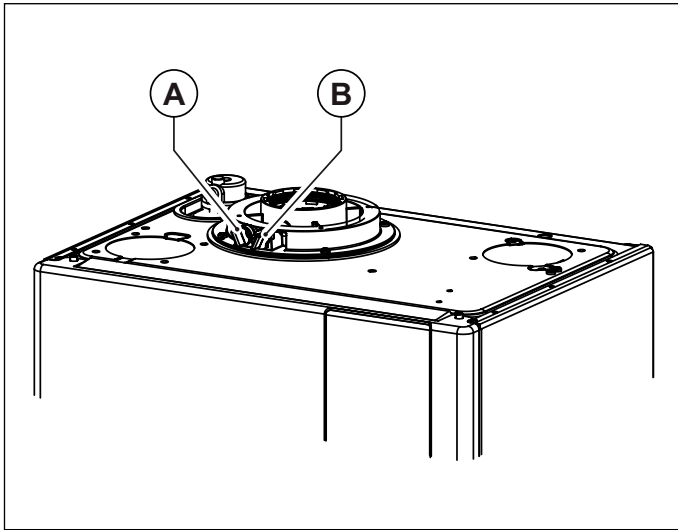
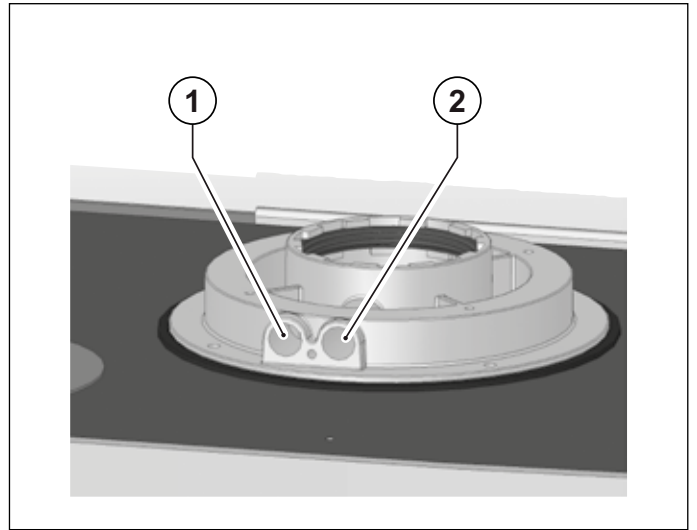

Fig. 15 Caps position
Fig. 16 Hole position
The boiler is equipped with a tower allowing for air intake/flue gas venting pipe connection (see Fig. 15 Caps position and Fig. 16 Hole position).
The tower is designed with two pre-arranged openings directly accessing air and flue gas ducts (see Fig. 15 Caps position).
Remove caps **A** and **B** from the pre-arranged openings on the tower, before taking the measurements (see Fig. 15 Caps position).
- assess combustion air from opening **1** (see Fig. 16 Hole position).
- assess flue gas temperature and CO2 from opening **2** (see Fig. 16 Hole position).